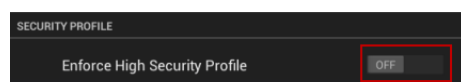

FIG. 95 SECURITY PROFILE - Enforce High Security Profile option
1. On the *SYSTEM > Security Settings* page, toggle the **Enforce High Security Profile** option to **ON** (FIG. 95):